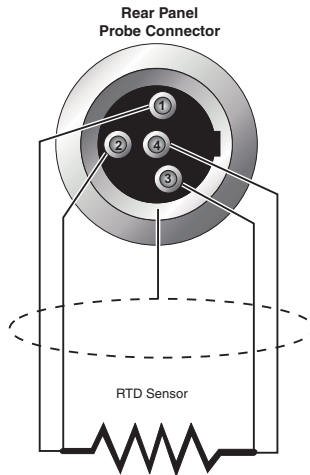

Figure 2 RTD Probe Wiring
Connect the control probe into the socket at the back of the controller labeled “PROBE” (see Figure 2 on page 14). Insert the probe into the bath or system to be controlled. For best stability and response time the control probe should be
(3) The control probe is plugged in here. The probe is a DIN 43760 type RTD. Probes or additional connectors for use with the user's probes are available from Hart. For assistance in wiring an RTD to the controller see Figure 2 on page 14. A probe connector has been provided for use with the control probe connection.
(4) The RS-232 communications cable is connected to this 9 pin D-subminiature connector. This enables the controller to be programmed and operated remotely.
(5) The serial number label (not shown) is located on the bottom of the unit towards the back panel.